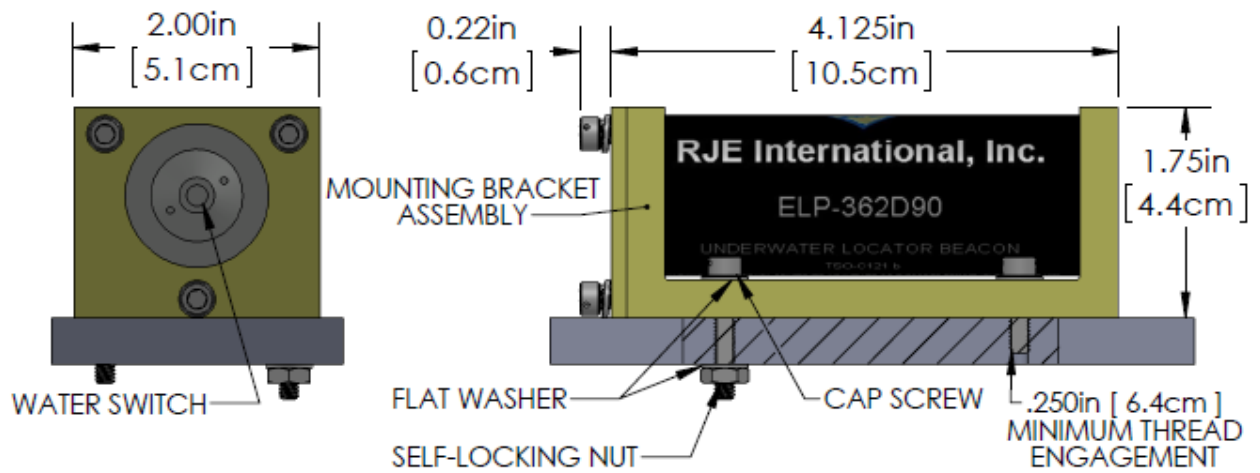

Figure 3-2 Securing the Mounting Bracket
Figure 3-2 Securing the Mounting Bracket	8
2. Secure the mounting bracket with four 10-32 stainless steel screws and associated hardware (not supplied) as shown in Figure 3-2.